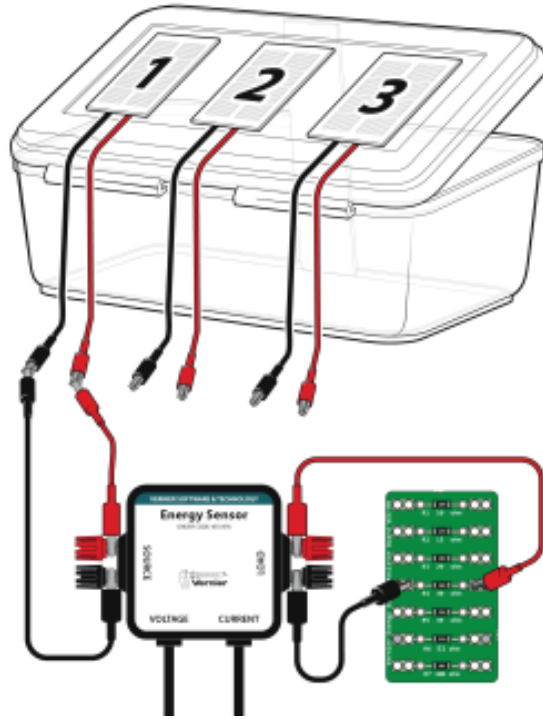

Figure 3
- a. Connect the Energy Sensor Source terminals to each other with a wire lead, as shown in Figure 3.
- a. Clip one end of a wire lead to the black Load terminal and the other end of the wire lead to the hole on the left side of the 30 ohm resistor (see Figure 3). **Note:** If you have a black wire lead, use it. If not, you can use any other color.
5. Set up the Solar Panels and the Solar Energy Exploration Kit box (see Figure 3).
- a. Use a wire lead to connect the black wire from Solar Panel 1 to the black Source terminal (see Figure 3). **Note:** If you have a black wire lead, use it. If not, you can use any other color.